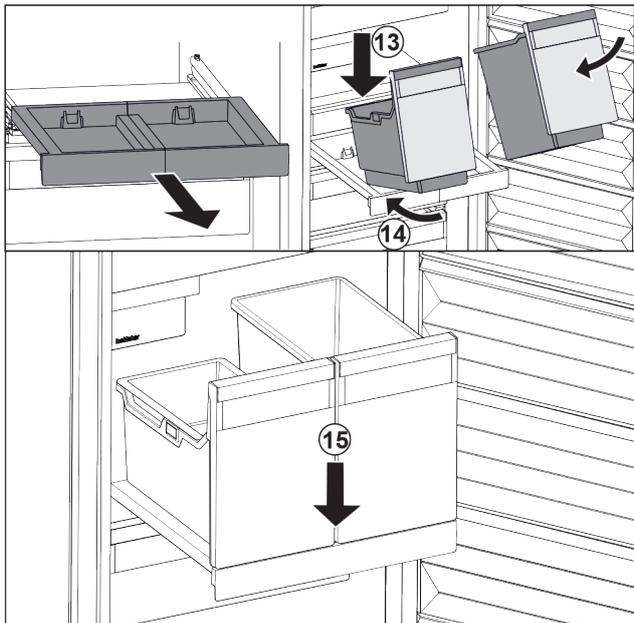

Fig. 47
- ▶ Place the container at an angle on the pull-out board. Fig. 47 (13)
- ▶ Slide the container to the back at an angle. Fig. 47 (14)
- ▶ Place container in the front. Fig. 47 (15)